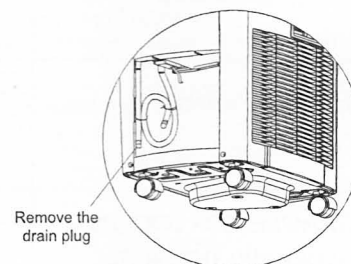

Fig.17
- Remove the plug from the end of the hose, all the water in the bottom tray would drain outside through the drain hose. (See Fig.17)